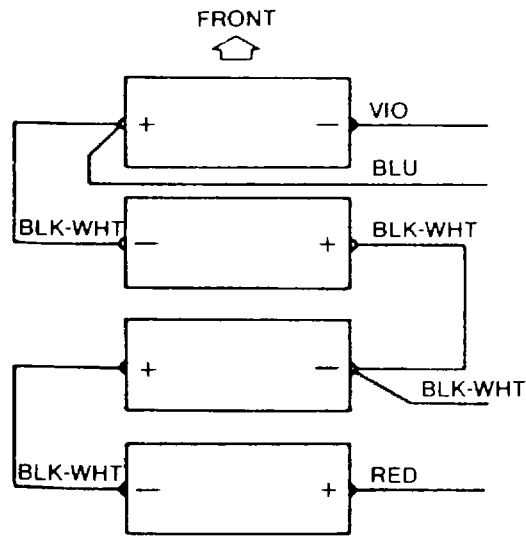

Figure 3-1 Voltmeter, battery wiring diagram.
- Clip the dc milliammeter probe to the violet battery lead (figure 3-1).